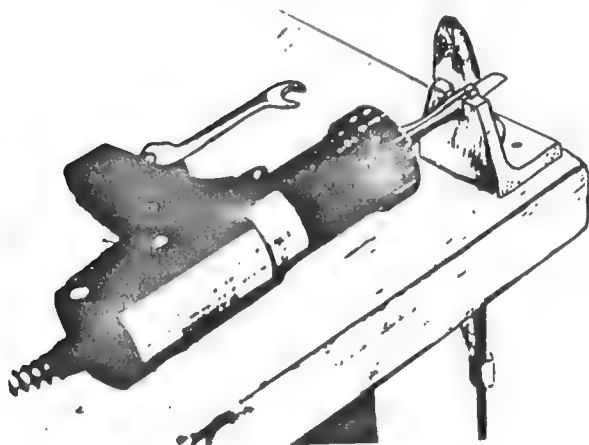

Figure B-2.1
- a. Clamp or bolt the blade-changing fixture (see figure B-2.1) to a table close to the power supply.
* Shown clamped to the bench in figure B-2.1.